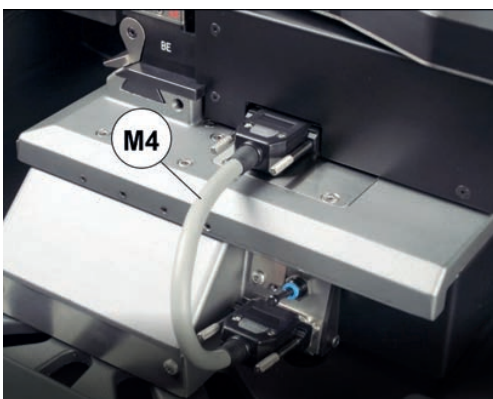

Fig. 142
- 3) Disconnect the serial cable (M4) that connects V4 clamp to the machine (Fig. 142).